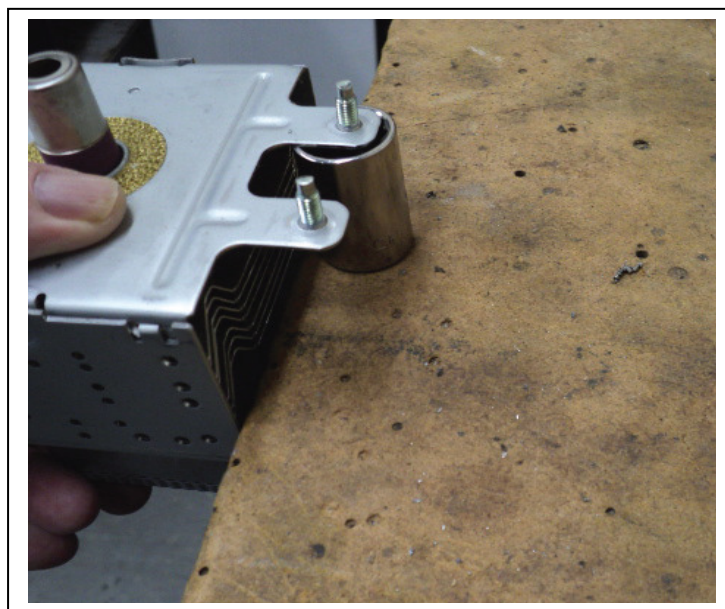

Figure 1
- a. Place magnetron mounting stud over a socket slightly larger than the size of the mounting stud on the edge of a sturdy work surface (Figure 1).